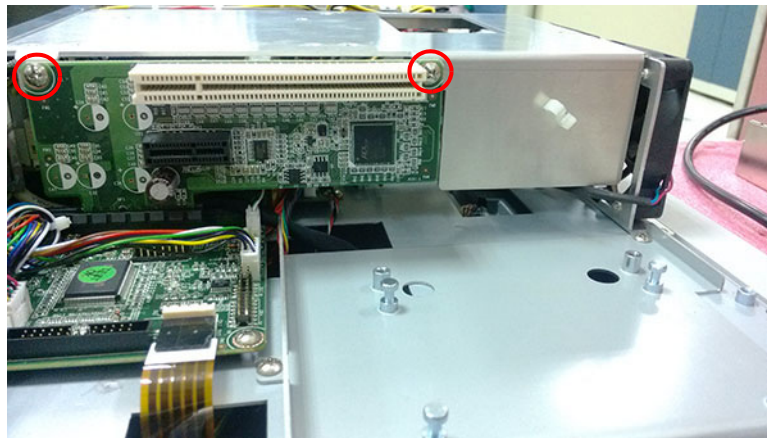

Figure 2.7
2. Remove the two screws of the riser card (see Fig 2.7), and pull out the card.